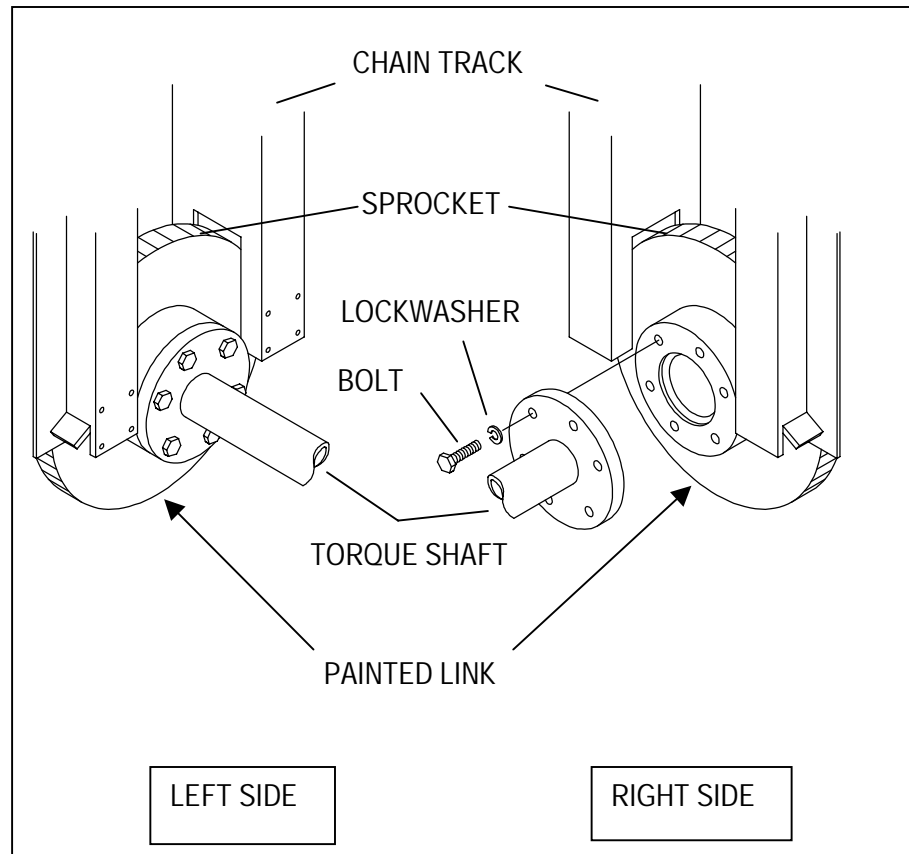

Figure 15. TORQUE SHAFT INSTALLATION
4. Locate the painted links on the load chains next to the marked trunnion plates. Adjust the chains to align the painted links on the left and right drive sprockets (see Figure 15).